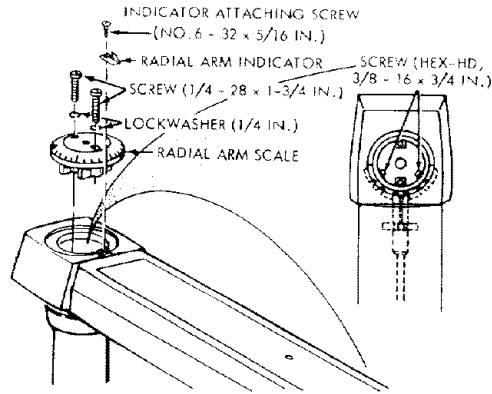

Figure 62
- (1) Remove two 1/4-28 x 1-3/4-inch screws (figure 62) to free the radial arm cap, and lift out the cap.
- (3) Loosen (do not remove) two 3/8-16 hex-head screws (figure 62) located inside the column tube.